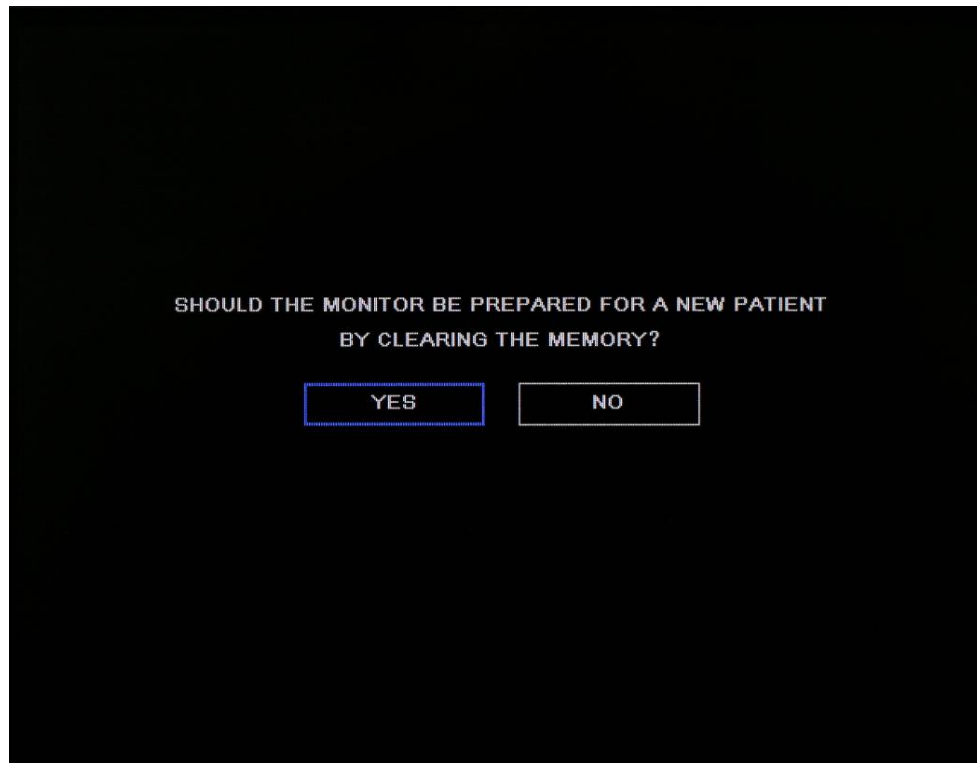

Figure 34 - Trend Memory Message
4. When the machine is turned on, a message appears, suggesting that you erase the trend memory in order to start a new patient without information from previous patients in the trend memory. This screen appears in Figure 34 - Trend Memory Message, below. Click **YES** to erase the trend memory. If you intend to continue measurement of the same patient as previously, you may want to retain the trend memory. In that case, click **NO**. If you record patient data as part of a case, trend memory will always be erased when you close the case.